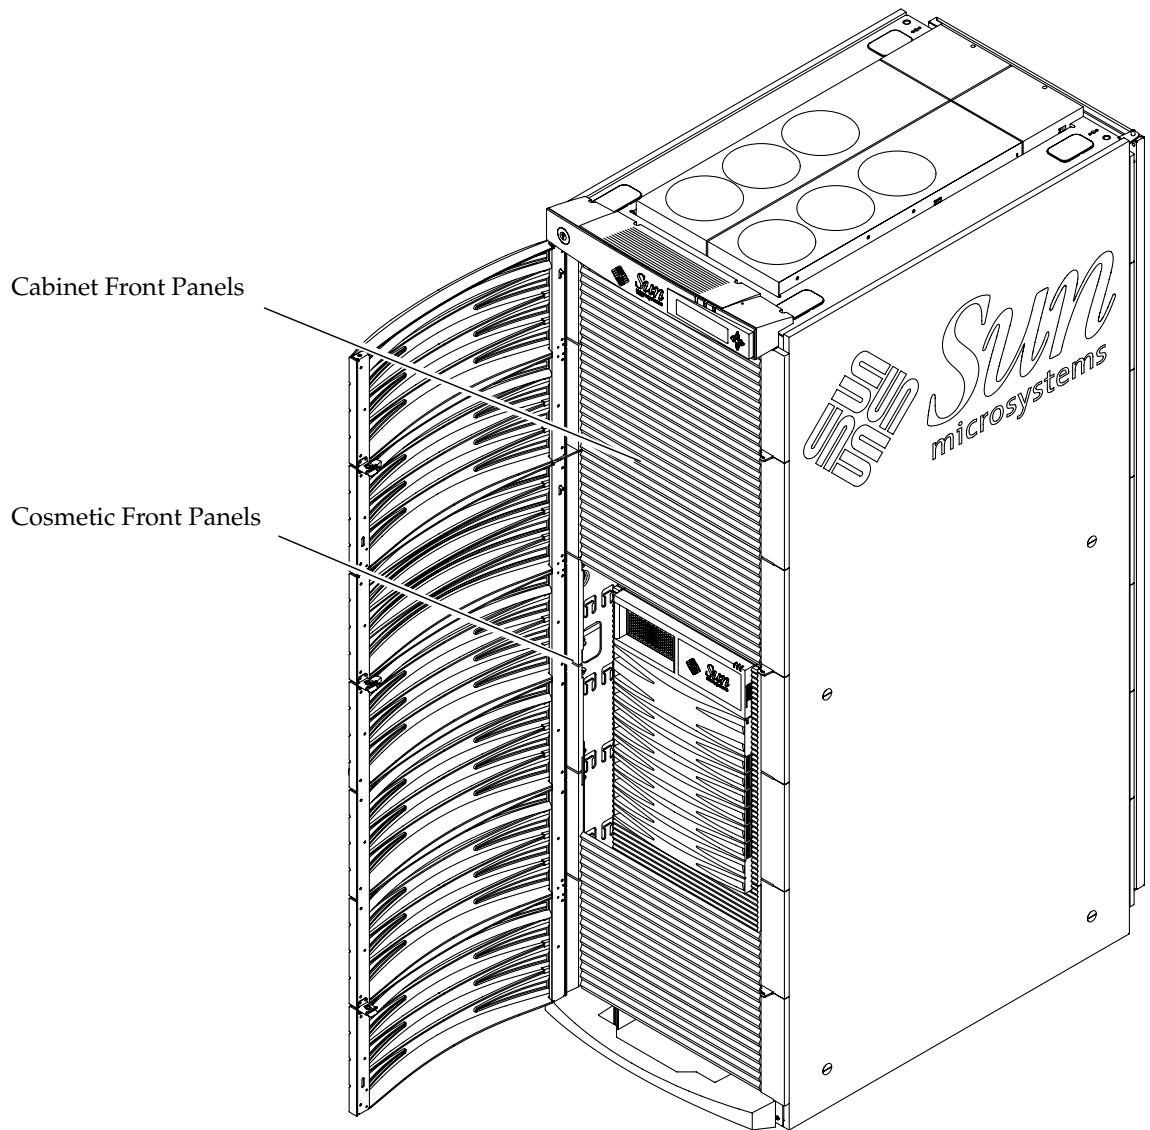

FIGURE 3-4 Cabinet Front Panel Locations
2. Secure subsequent panels by tightening the screws through the left and right front of each panel (FIGURE 3-4).